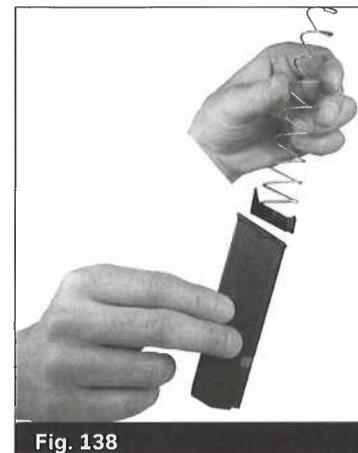

Fig. 138
- Insert the follower and magazine spring into the magazine tube with the end of the follower with the two prongs on the bottom towards the back of the magazine (Fig. 138).